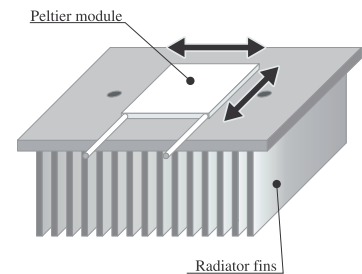

FIGURE 4. INSTALLING THE PELTIER MODULE
- 3) Place the heat-emitting side of the Peltier Module onto the appropriate place on the radiator fins. While applying light pressure to the unit, slide the unit back and forth, left and right, approximately 20 times to ensure a good fit and to lose any layer of air between the connecting sides. (figure 4)